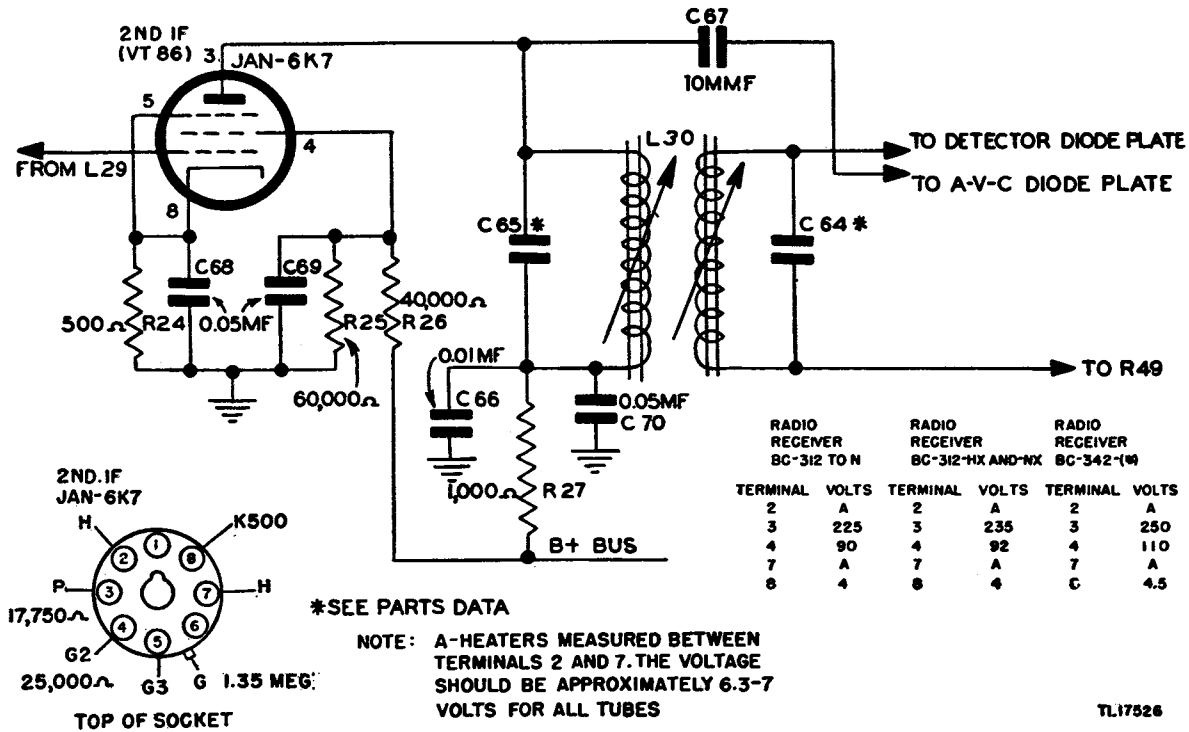

Figure 27. Second i-f amplifier, schematic diagram.
b. VOLTAGE AND RESISTANCE MEASUREMENTS. The voltage and resistance measurements shown in figure 27 are made in the manner and under the conditions listed in paragraph 42b.